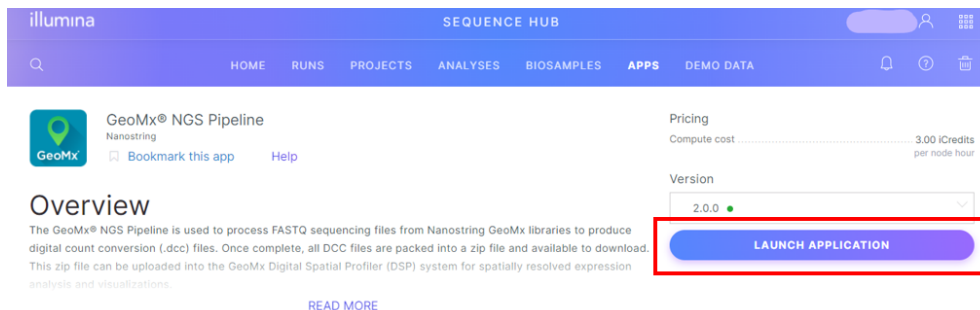

Figure 15: Launch application
3. Launch application (see Figure 15).